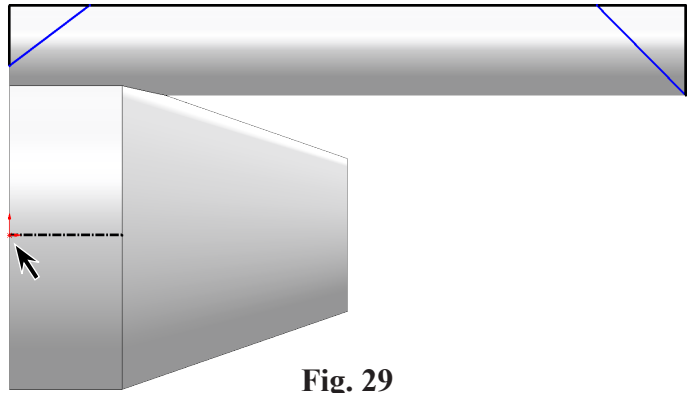

Fig. 29
Step 9. Sketch **horizontal centerline from Origin** , Fig. 29.